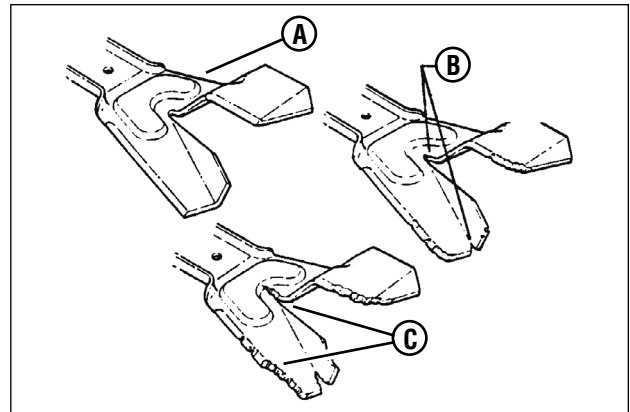

Figure 21: Ninja blade wear limits
1. Inspect the blade (**Figure 21**) frequently for signs of excessive wear or damage:
- (A) New blade
- (B) Wear limit (cracks or notches begin to appear on tip)
- (C) Dangerous condition! Do not use on the mower! Replace with a new blade.